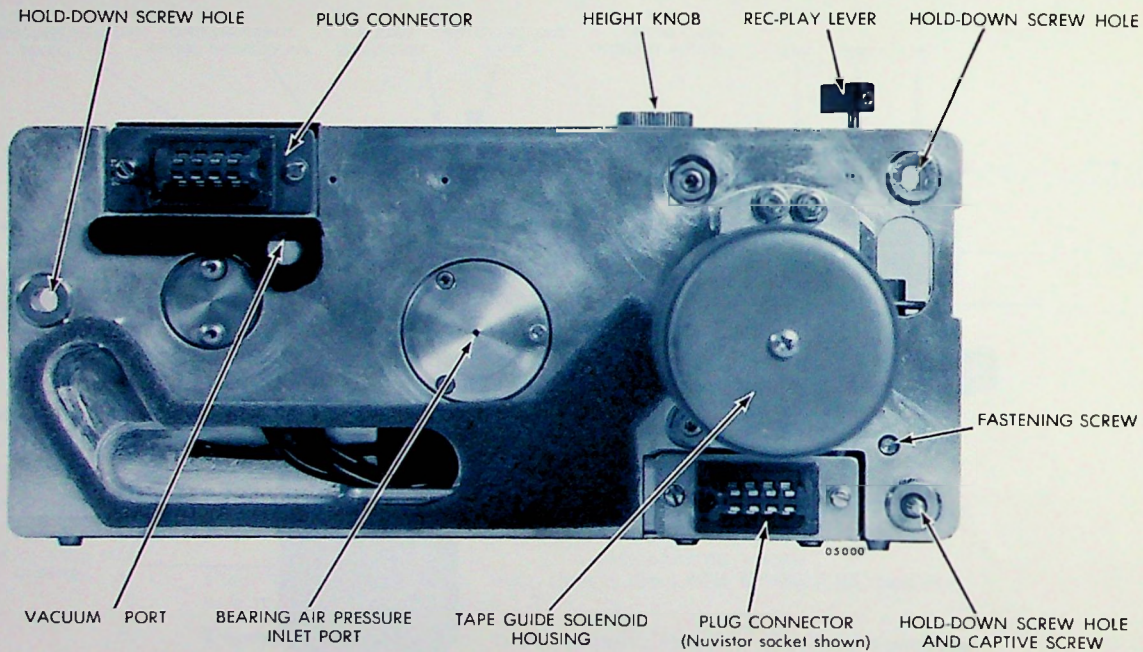

Figure 2. Bottom View of the Mark Ten Video Head Assembly
- b. Disable the drum motor power supply. Position the head assembly so as to align both of the connector plugs (see *Figure 2*) with their mating receptacles.
- c. Secure the assembly to the top plate with the three holddown screws provided. See *Figure 2* to identify the location of the holddown screw bushings.
- b. Remove the rotary transformer cover by loosening and removing the slotted-head screw on the top of the cover, and the fastening screw shown in *Figure 2*.